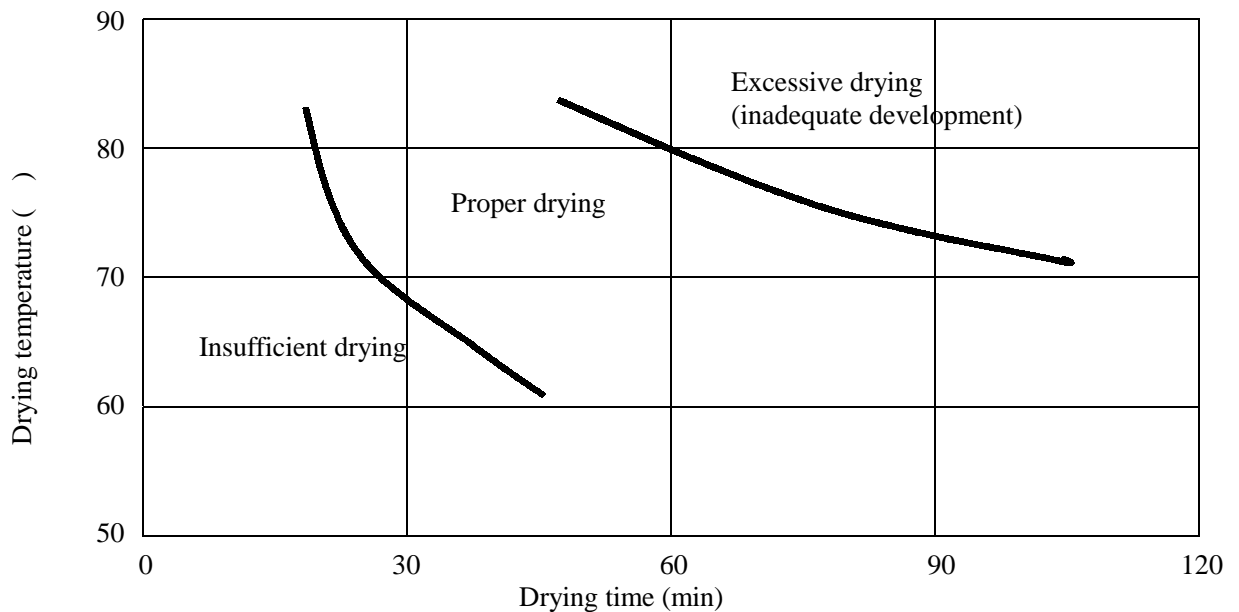

Fig.3 Pre-drying temperature, drying time and the dried condition of the film
- Fig.3 shows the interrelationship between pre-drying temperature, drying time and the dried condition of the film. (Using drying furnace).
- If the pre-drying of the resist is performed at about 75 °C, the quality will be stabilized as the time range of appropriate drying is wide as shown in Fig.3. A circulation type drier having an ample amount of hot air will be the best for ease of drying.